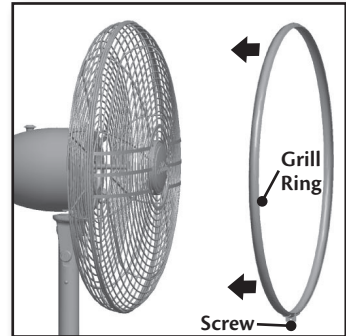

Figure 17
- Expand the grill ring by loosening the screw that secures it. Figure 17.
- Slide the grill ring over both front and back grills turning the ring so that the screw that secures it, is on the bottom. Figure 17.